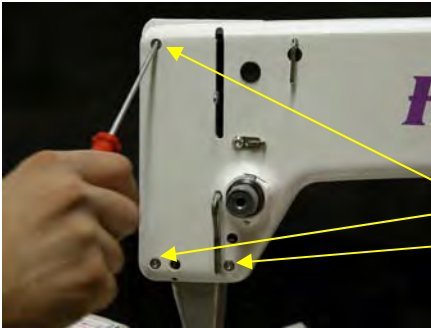

Figure 2.2
2. Remove the three frame screws as shown in Figure 2.2. (3mm handle allen tool)